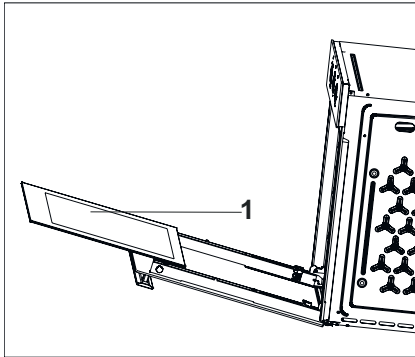

Fig. 18
- Remove the internal glass of the appliance to clean it (Fig. 18).